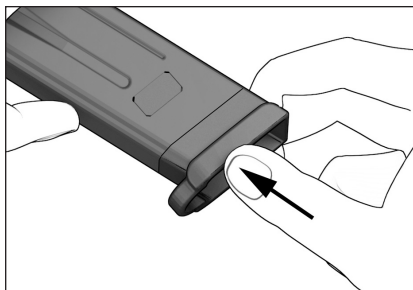

Figure 36
6. Check to see if the locking tabs on the floorplate are securely locked into the housing and the locking plate fits within the hole in the floorplate. (Figure 36)